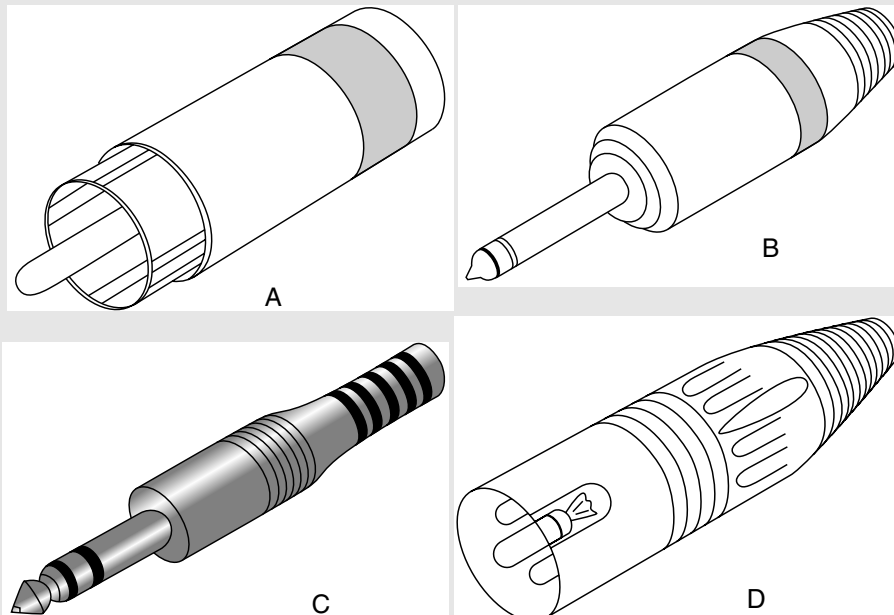

FIGURE 8.20 Common broadcast connectors.
1. Figure 8.20 shows the broadcast connectors you'll use for this project.